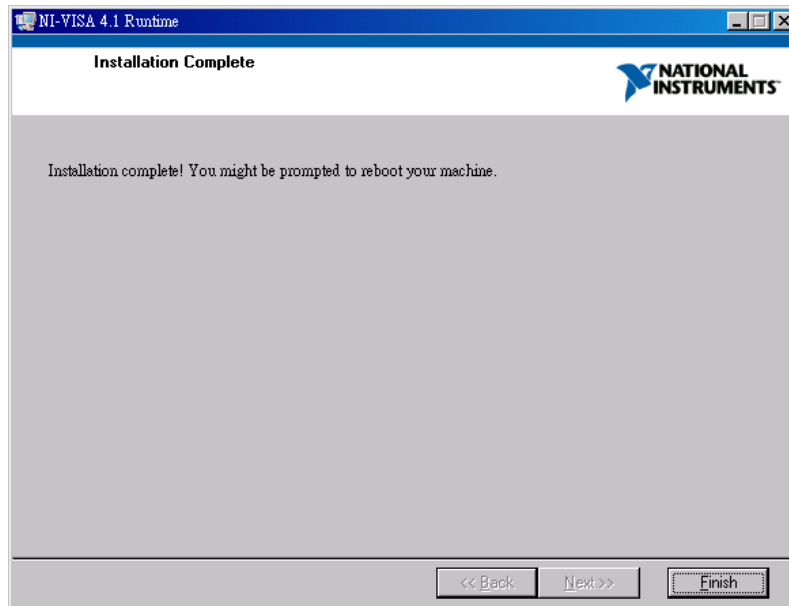

Figure 2-8 Installation Complete Window
3. Follow the prompt message to click **Next >>** and complete the installation procedure as Figure 2-8.